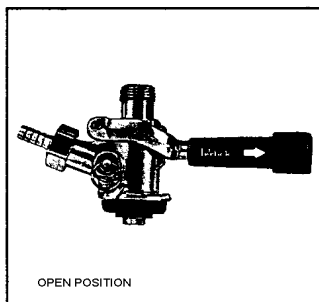

Figure 8
- Pull tapping handle out and press downward until it locks into position. (See Figure 8)